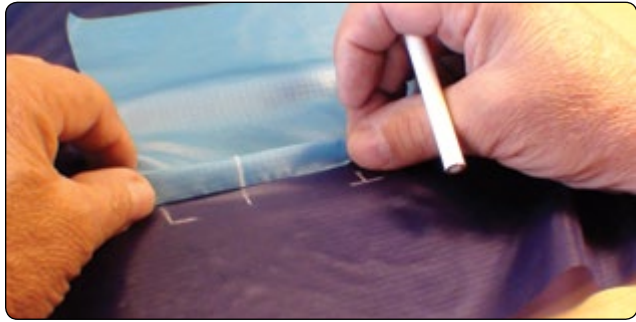

Figure 7-17. Start point.
10. Count down 14 ripstop boxes from any corner of the 7-inch square piece and make a start mark. [Figure 7-17]